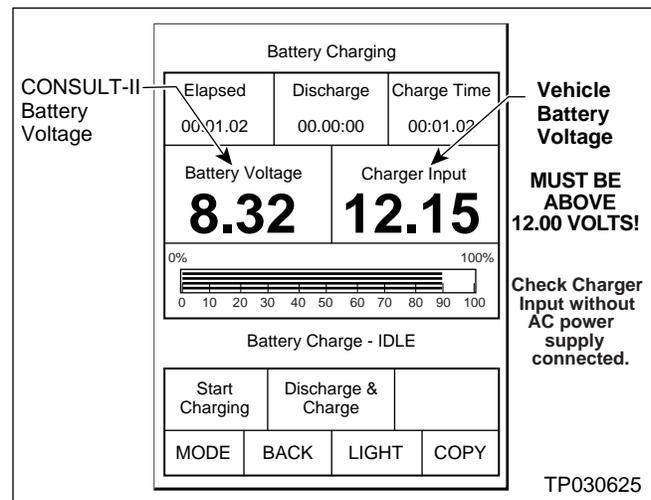

Figure 13
18. Check the CONSULT-II's "Charger Input" reading (see Figure 13).
19. The “Charger Input” reading **MUST** be above 12 volts (see Figure 13 on page 15).
- If “Charger Input” is above 12 volts, power from the vehicle battery will keep CONSULT-II’s power supply at the correct level during reprogramming. (see Figure 13).